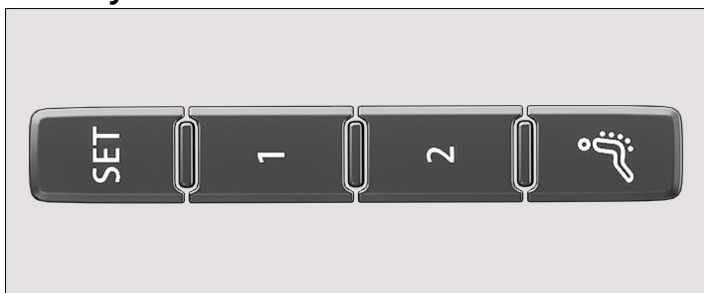

Fig. 1 On the outside of the driver seat: memory buttons.
5. Press the **SET** → Fig. 1 button for longer than 10 seconds.